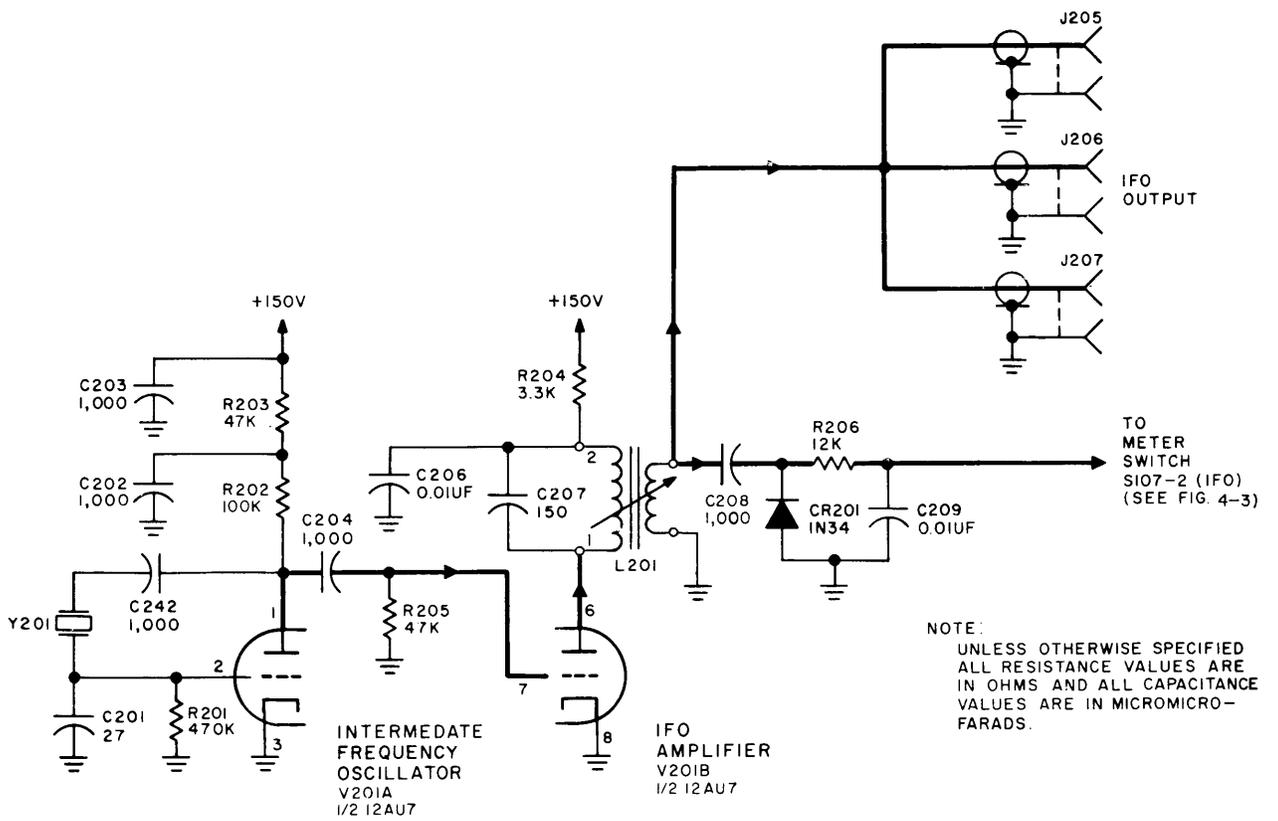

Figure 4-5. Schematic Diagram, IFO Chain
b. IFO CIRCUIT. (See figure 4-5.) - The IFO uses an oscillator circuit having a socket for a crystal CR-18/U for the range of 3.2 to 3.9 mc (nominally 3.5 mc). C202, C203, and R203 provide a low band-pass filter while C242 is the crystal-coupling capacitor. The second half of the tube is a class C amplifier whose tuned plate circuit is link-coupled to the output jacks. The tank circuit is tuned by L201 near a nominal frequency of 3.5 mc. A germanium-diode rectifier, CR201, and its associated filter network produce a DC level proportional to the RF output voltage. This DC level is fed to front panel meter M301 so that the output indication is available to the operator or technician. (Full-scale deflection is approximately equivalent to 10 volts RMS of RF voltage.)